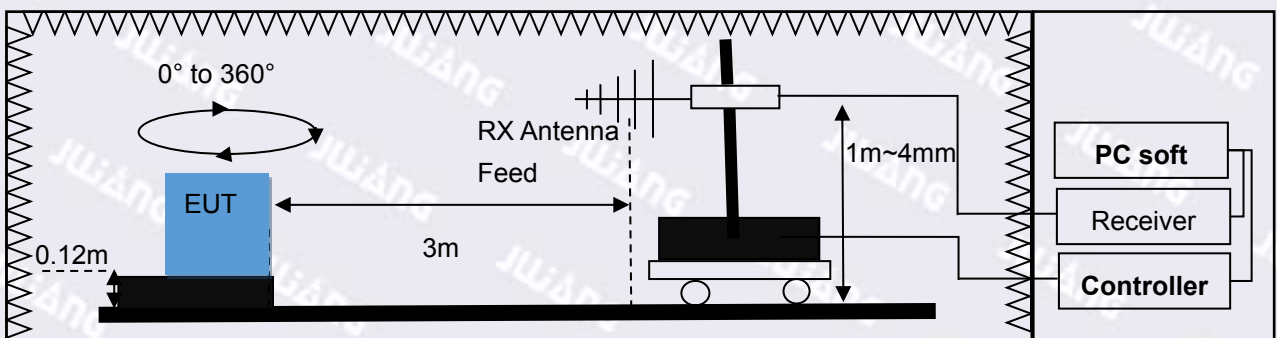
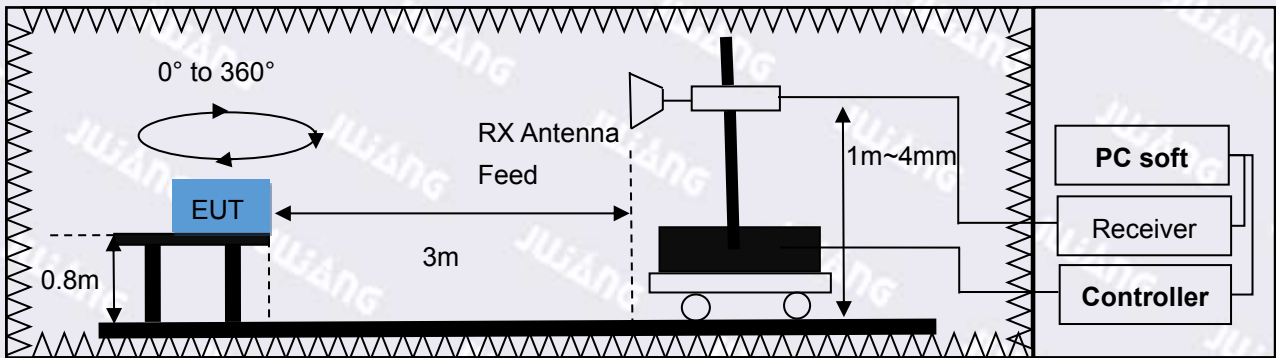

Figure 5-2 Test set-up of radiated disturbance(30MHz-1GHz)
Figure 5-3 Test set-up of radiated disturbance(1000MHz-6000MHz)
- b) The EUT was placed on the top of a table 0.8 meters above the ground at 3-meter SAC as figure 5-2 or 0.12m above the ground at 3-meter SAC as figure 5-3.